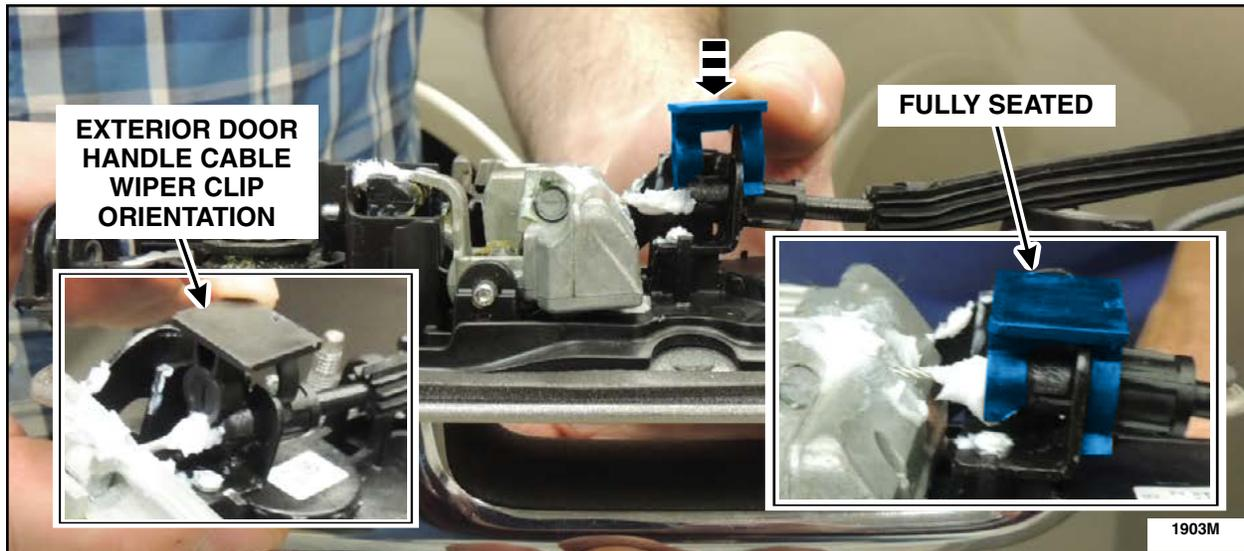

FIGURE 31
34. Install a *new* handle cable wiper clip on the exterior door handle cable end. See Figure 31.